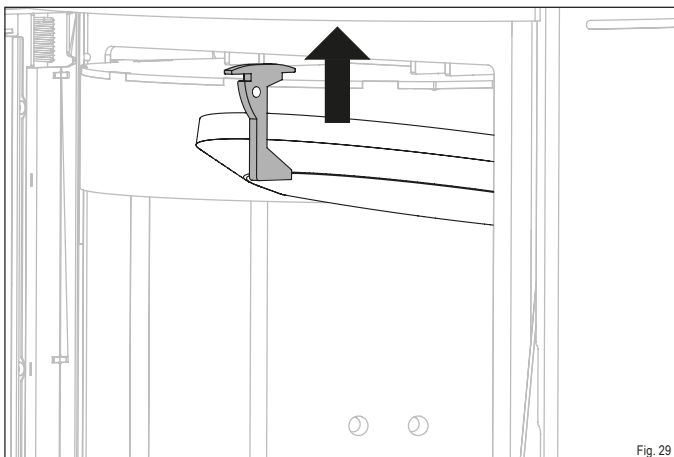

Fig. 29
- ▶ Slide the firebrick retainer upward (Fig. 29).